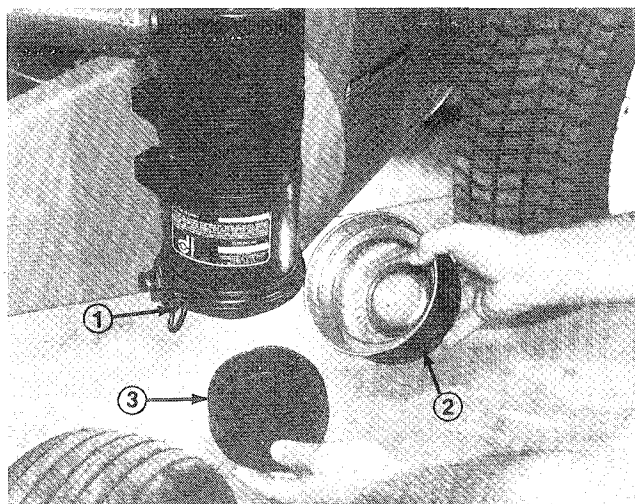

Figure 40
1. Loosen thumb screw until dust cup and baffle can be removed (Fig. 40). Separate dust cup and baffle.